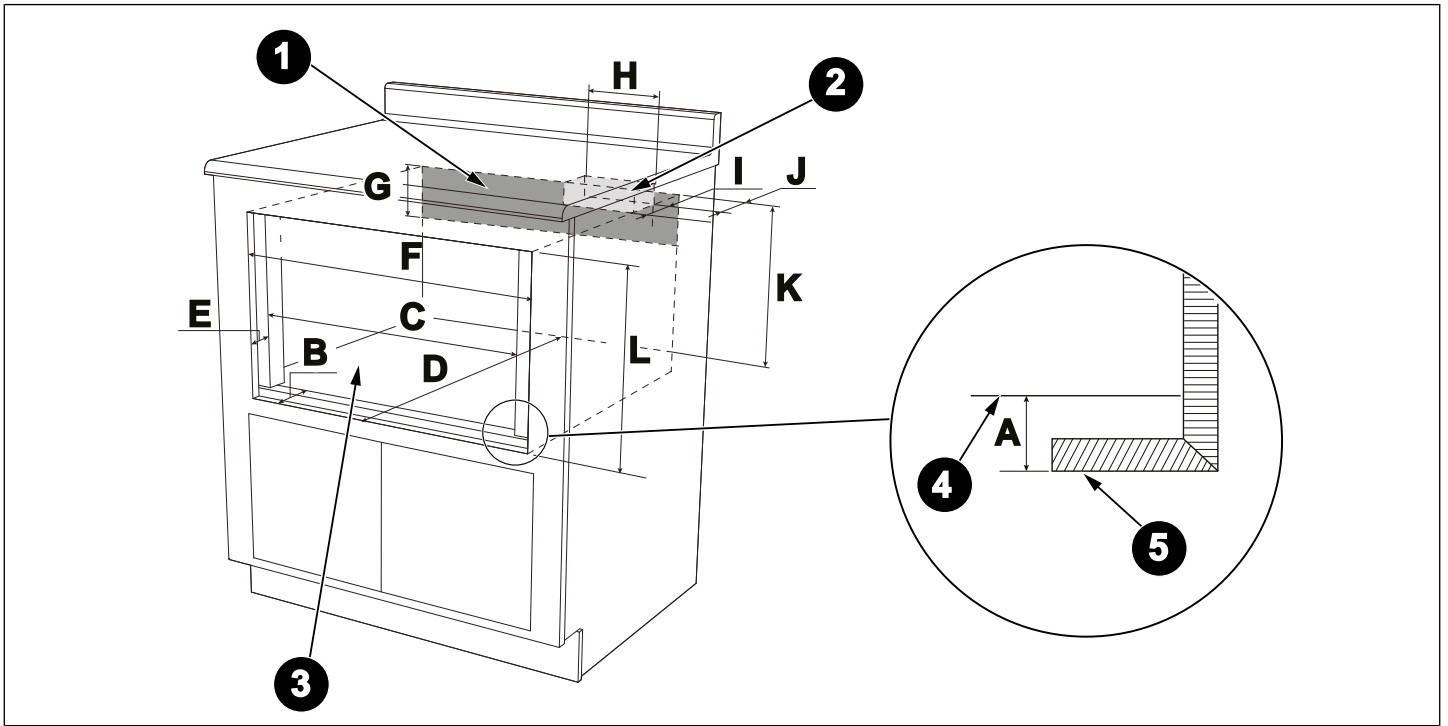

Fig. 6
- 1) Prepare the cabinet opening as shown in Fig. 6 .